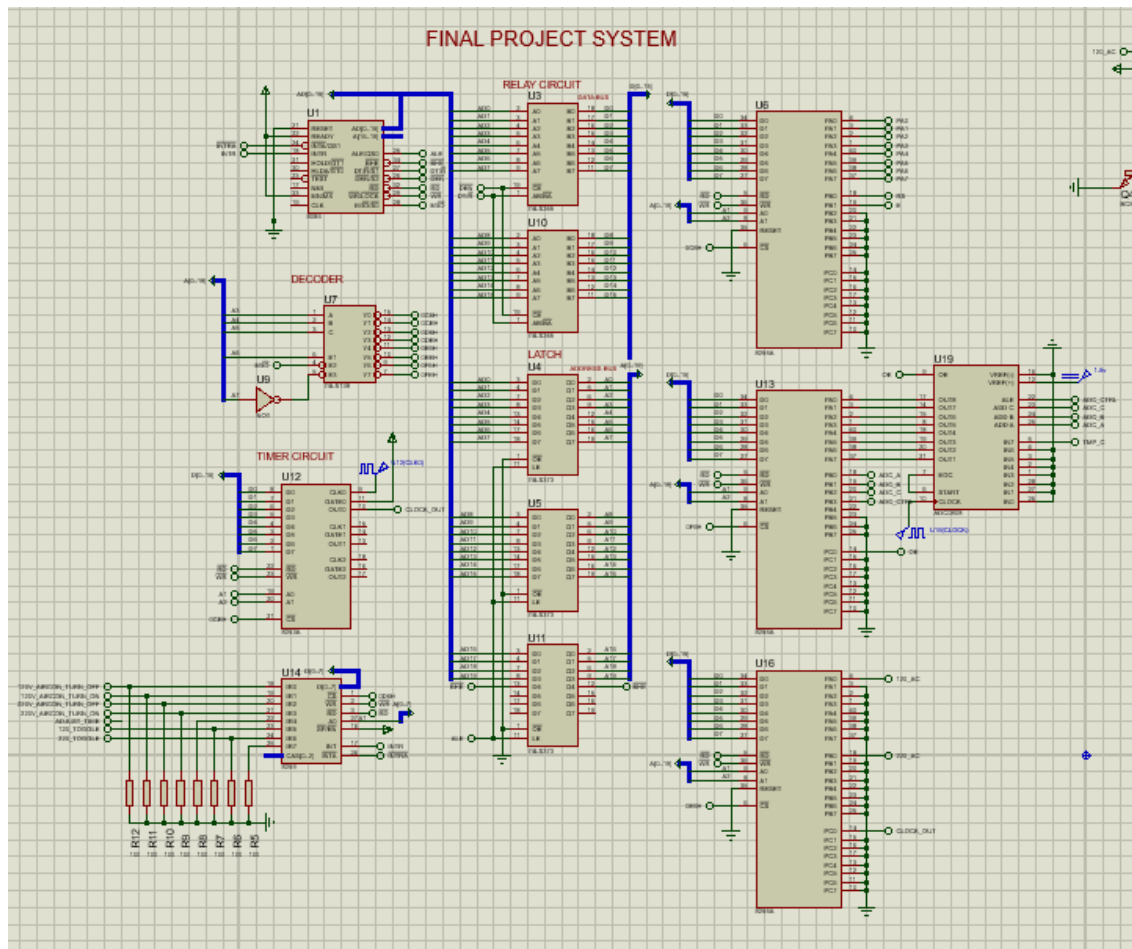

Figure 3.0 - Project Implementation
**Figure 3.0** features the implementation of the project. It has all the components related to the 8086. The 8259 uses six interrupts that are edged triggered, which helps accurately detect faulty voltage.